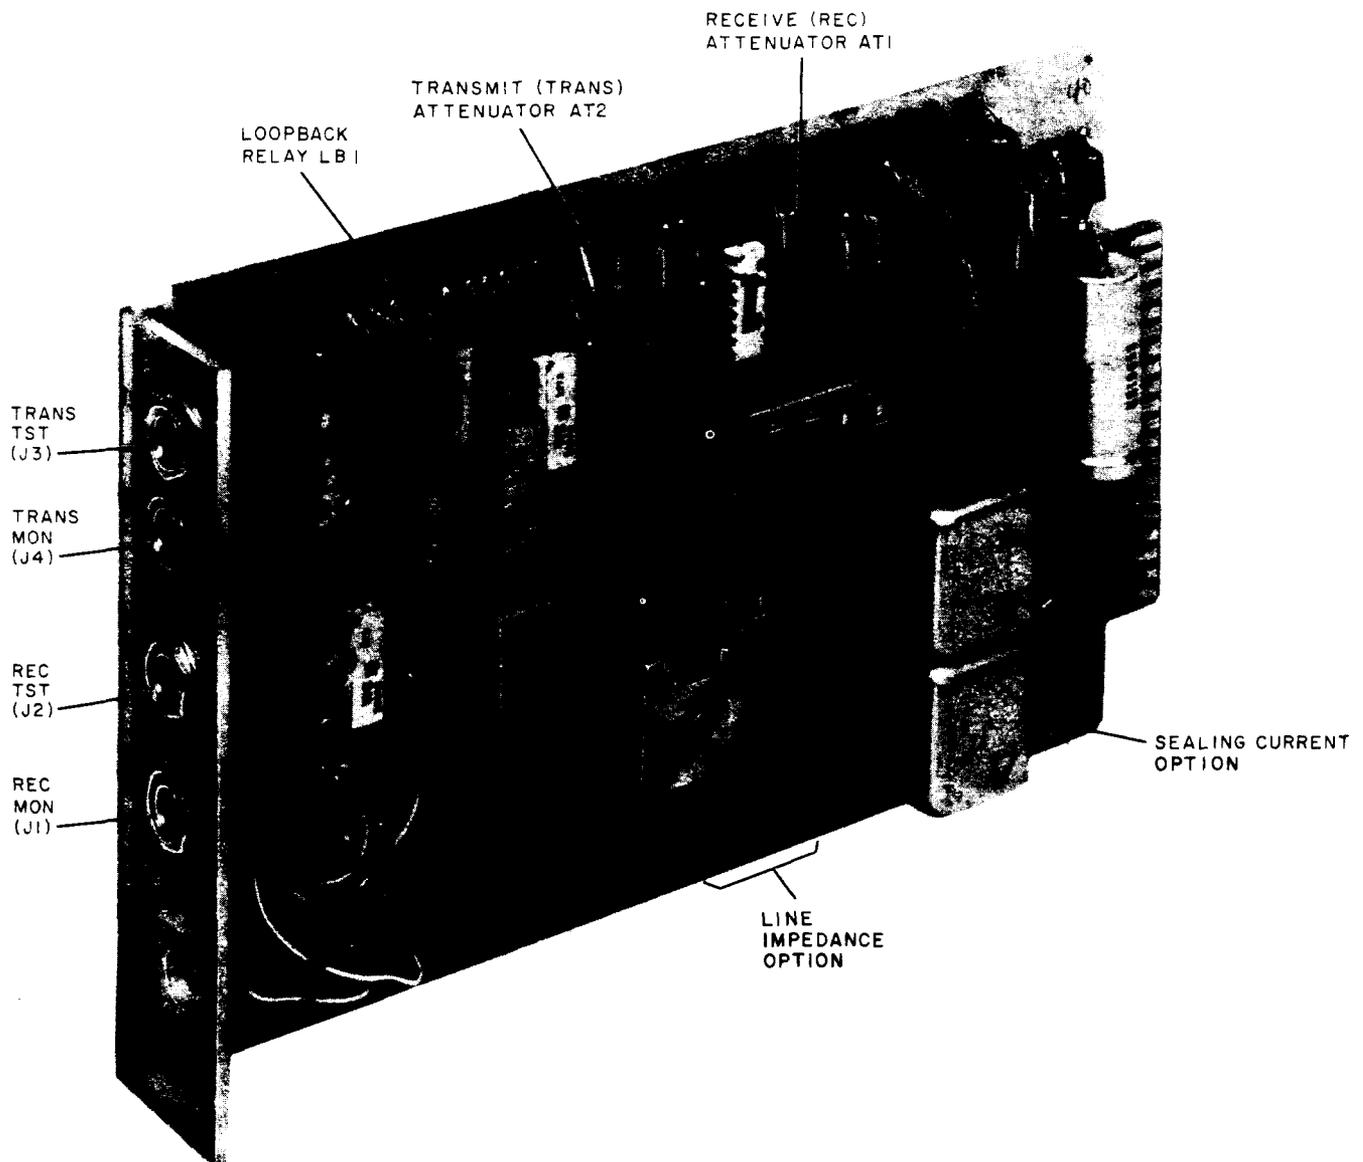

Fig. 2—DAS 829A-L1
2.04 Two line termination impedances are provided on the DAS 829A-L1. The straps used for line termination should be placed in either the 600- or 1200-ohm position. Two straps are required in each position. The required option should be specified on the service order. Refer to Fig. 2 for the location of these straps.